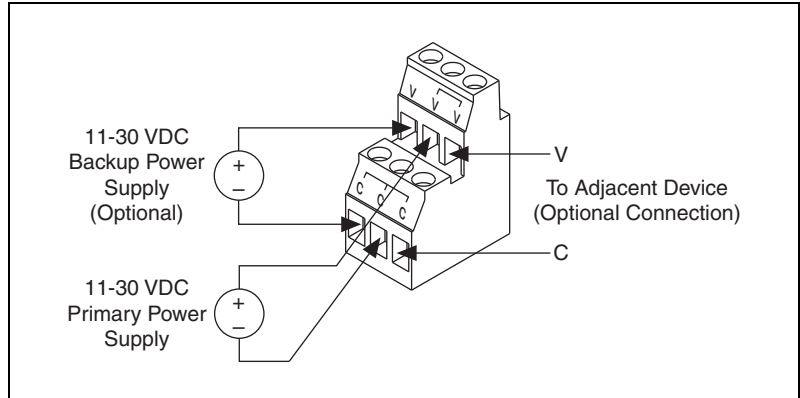

Figure 2-13. FBUS-HSE/H1 Power Connector Pinout
- Connect the primary 11–30 VDC power supply to the center V and C pair with the positive and negative wires on your power cable in the V and C terminals, respectively. You can connect an optional backup power supply to the left V and C pair. The power connector is a 6-pin screw terminal power connector whose pinout is shown in Figure 2-13.